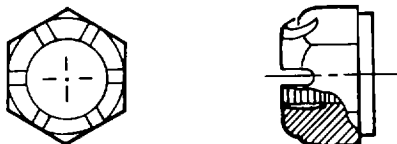

Figure 2-22. Airframe Castle Nut
(1) Airframe Use AN310 airframe castellated nuts, as shown in figure 2-22, in conjunction with drilled head bolts or studs. Use a cotter pin or lockwire to secure this nut